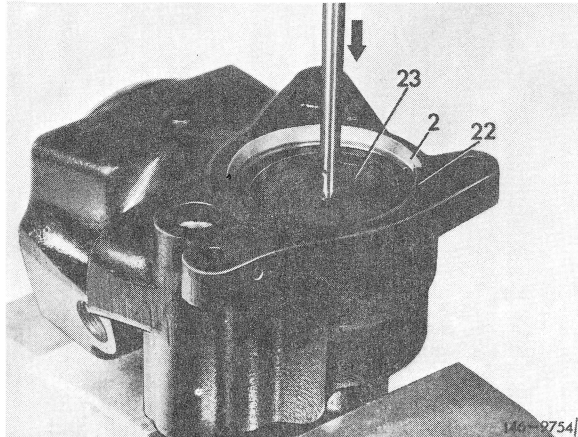

Fig. 8
8 Mount cover (23) and press slightly into housing by means of a hand press. Insert circlip (22) into groove of housing, watching out for correct location of ring (Fig. 8).